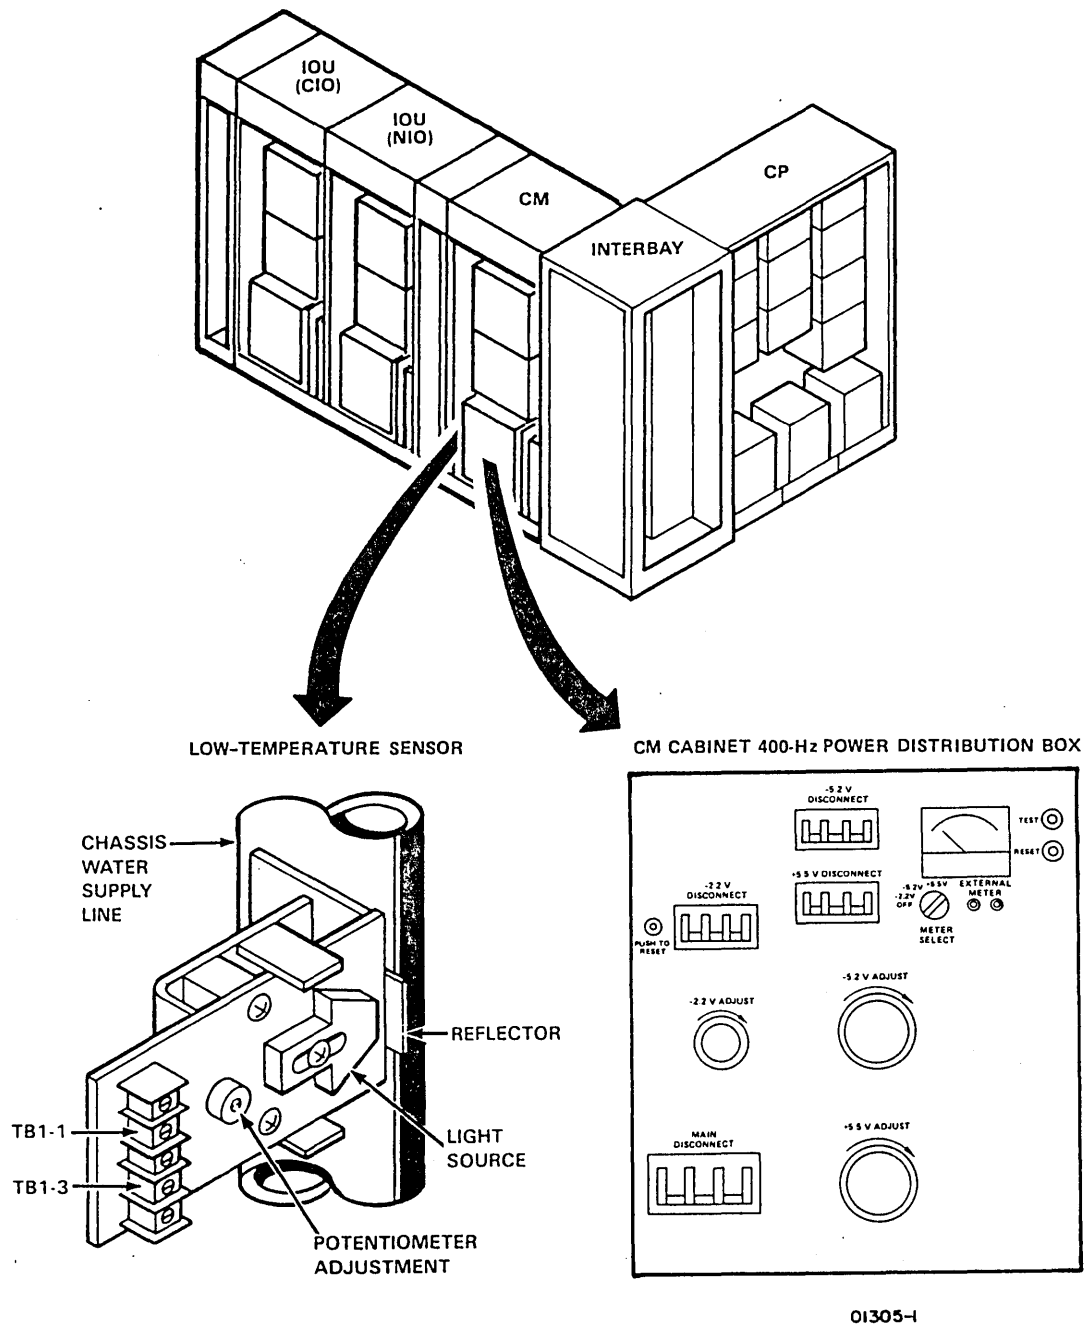

Figure 6-4. CM Low-Temperature Sensor
- ___ 1. Place a small piece of paper between light source and reflector on low-temperature assembly on CM water supply pipe (figure 6-4). Remove paper within 30 s to prevent removal of CM power. Observe the following while paper is in place.